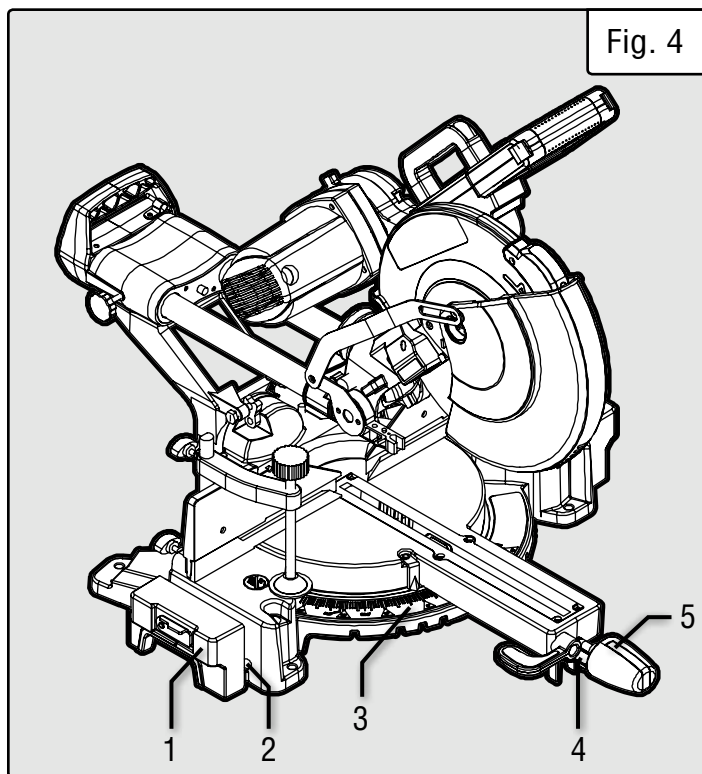

Fig. 4
1. Loosen the miter lock knob (Fig. 4 - 5) by turning it one or two turns counterclockwise.
2. Pull up on the miter stop lever (Fig. 4 - 4) to unlock the table. While holding the miter stop lever up, adjust the table to the desired angle. The miter scale indicator (Fig. 4 - 3) will point towards the selected angle. To make micro adjustments to a specific angle, rotate the table while pulling up on the miter stop lever. The miter table has positive stops at 0°, 15°, 22.5°, 30°, and 45° in both directions for quick adjustments.
3. After selecting your miter angle, release the miter stop lever and tighten the miter lock knob (Fig. 4 - 5) by turning it clockwise to lock the table in place.
The table extensions (Fig. 4 - 1) come pre-installed on either side of your miter saw and serve as extra support for your workpiece. Loosen the table extension knobs (Fig. 4 - 2) to adjust their positioning. The stop plate on each table extension can be raised to quickly and easily make repeated cuts.